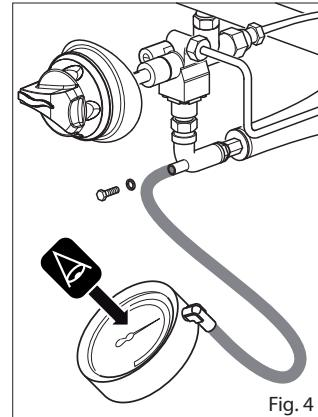

Fig. 4
- unscrew the pressure intake screw (Fig. 4);
**Solid top 700:** Unscrew the retaining nut at the crosspiece and the pilot group (Fig. 4/A) / Remove the burner/Position the new burner/ Tighten the burner at the crosspiece and the pilot group